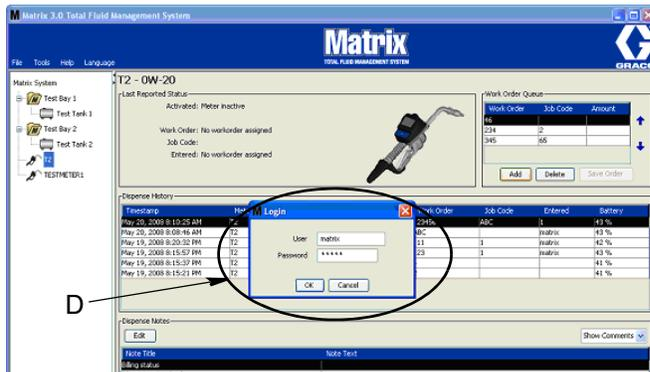

FIG. 118
3. In the pop-up box (D) (FIG. 118) type in your user name and password. Click OK.